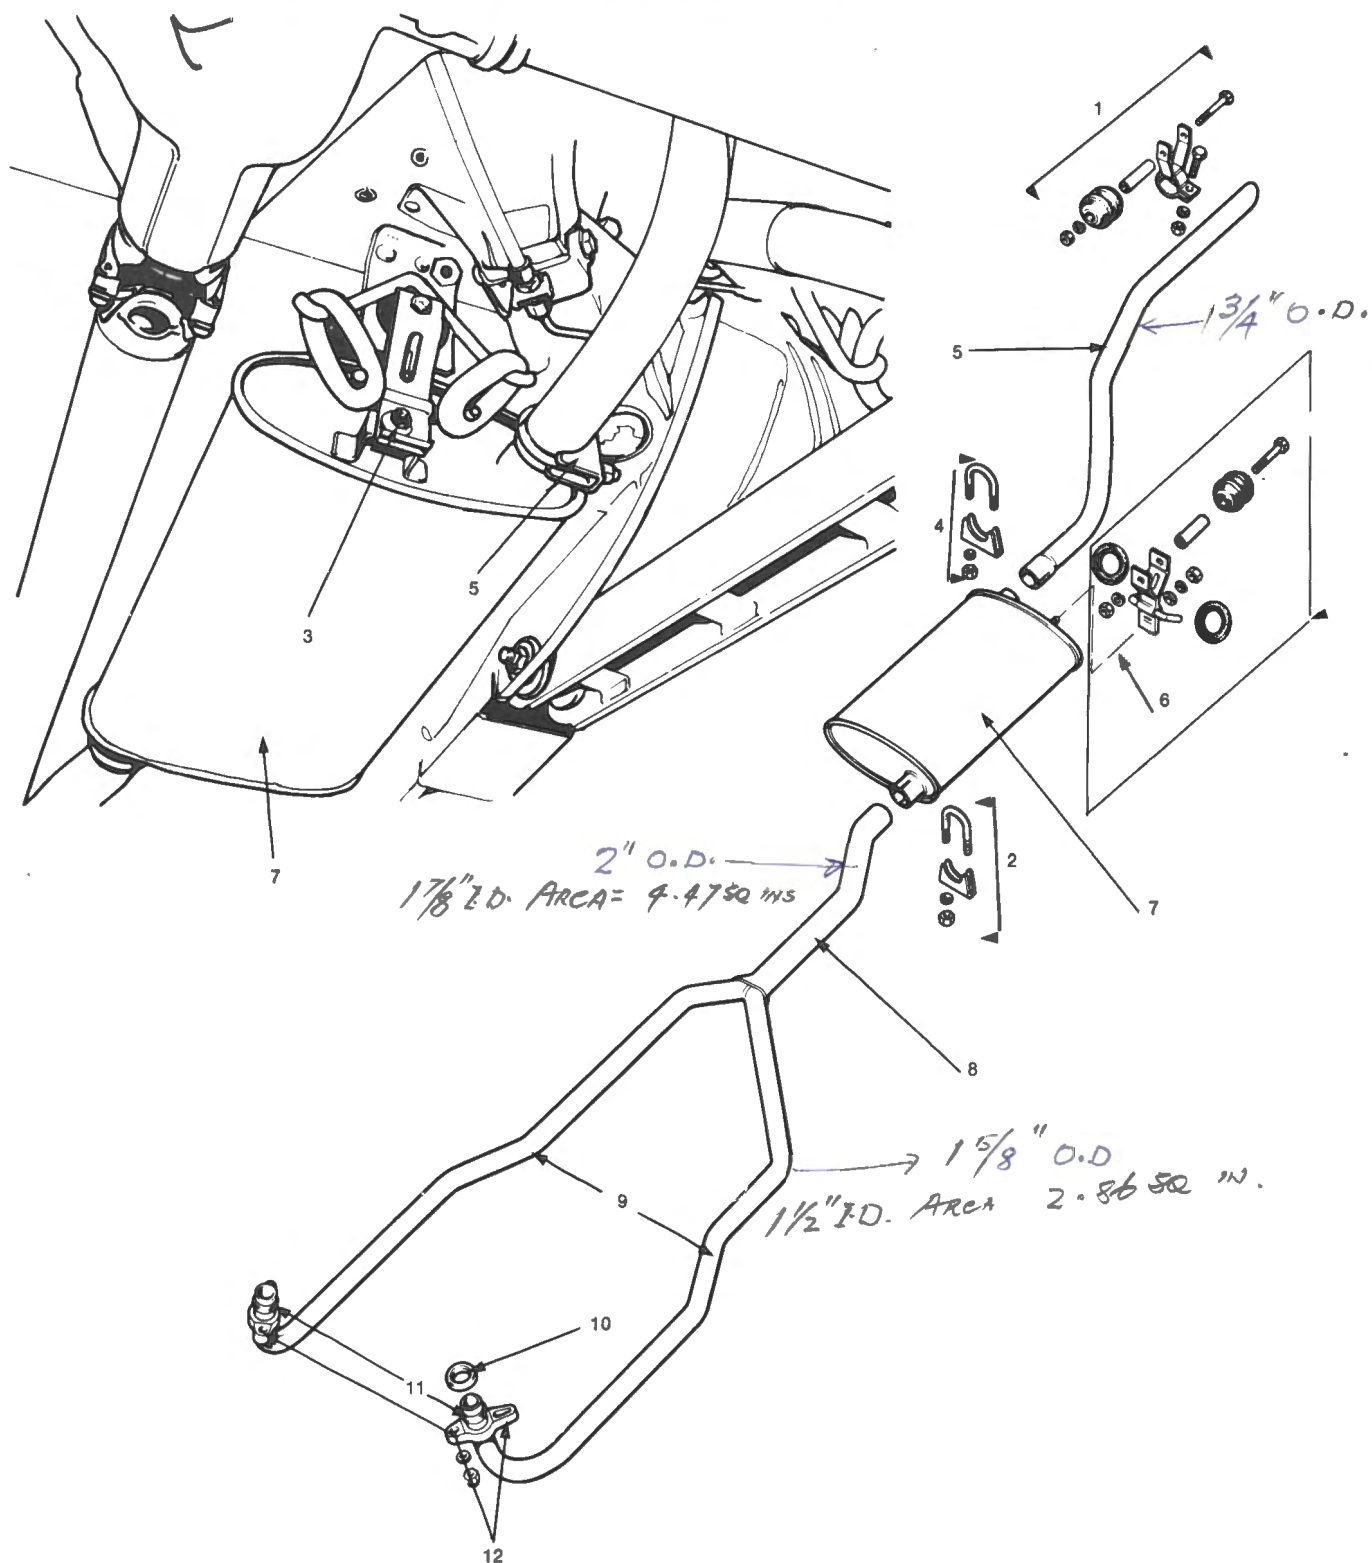

Fig. D-105
The exhaust pipes, muffler and mounting arrangement for both manual and automatic vehicles is as depicted in Fig. D-105. The components are serviced as shown. When assembled the system should be under the minimum of stress and correctly aligned to minimise the possibility of component failures and the transference of noise.
- 2 Fit new sealing rings (10) to the pipe flanges (4).
- 3 Locate both sides of the pipe assembly in their manifolds and loosely fit the clamping plates and nuts (12).
- 6 Assemble the rear mount and locate components (1).
Should it be necessary to replace components of the intermediate mounting assembly (6), refer Inset Fig. D-105 for correct assembly.